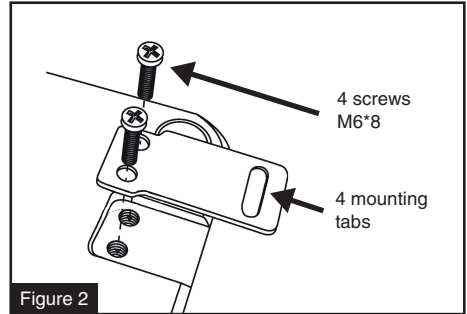

Figure 2
6. Fix the clamps to the subwoofer case with the four screws M6\*8 (the fixing clamps have a mounting direction system) see (Figure 2 & 3)